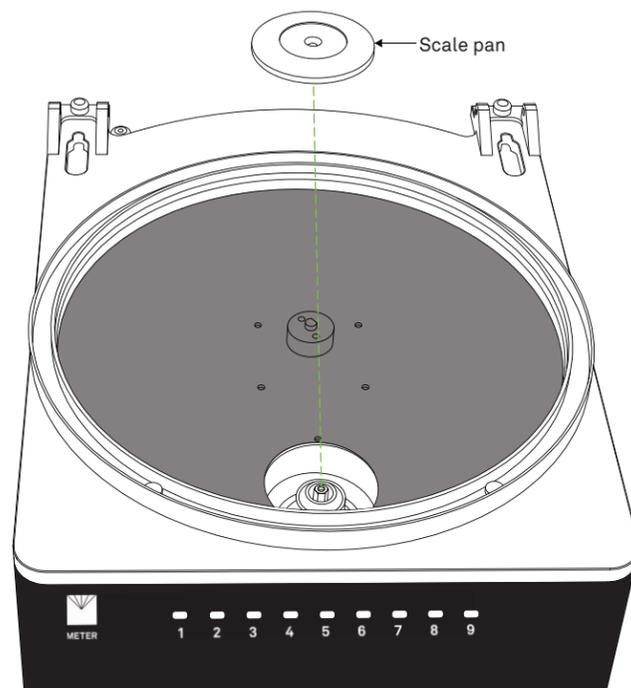

Figure 11 Remove Scale Pan
Do not drop debris, water, or cleaning supplies down the scale rod shaft (Figure 11).
6. To access the scale well, remove the scale pan by removing the screw from the center (Figure 11).